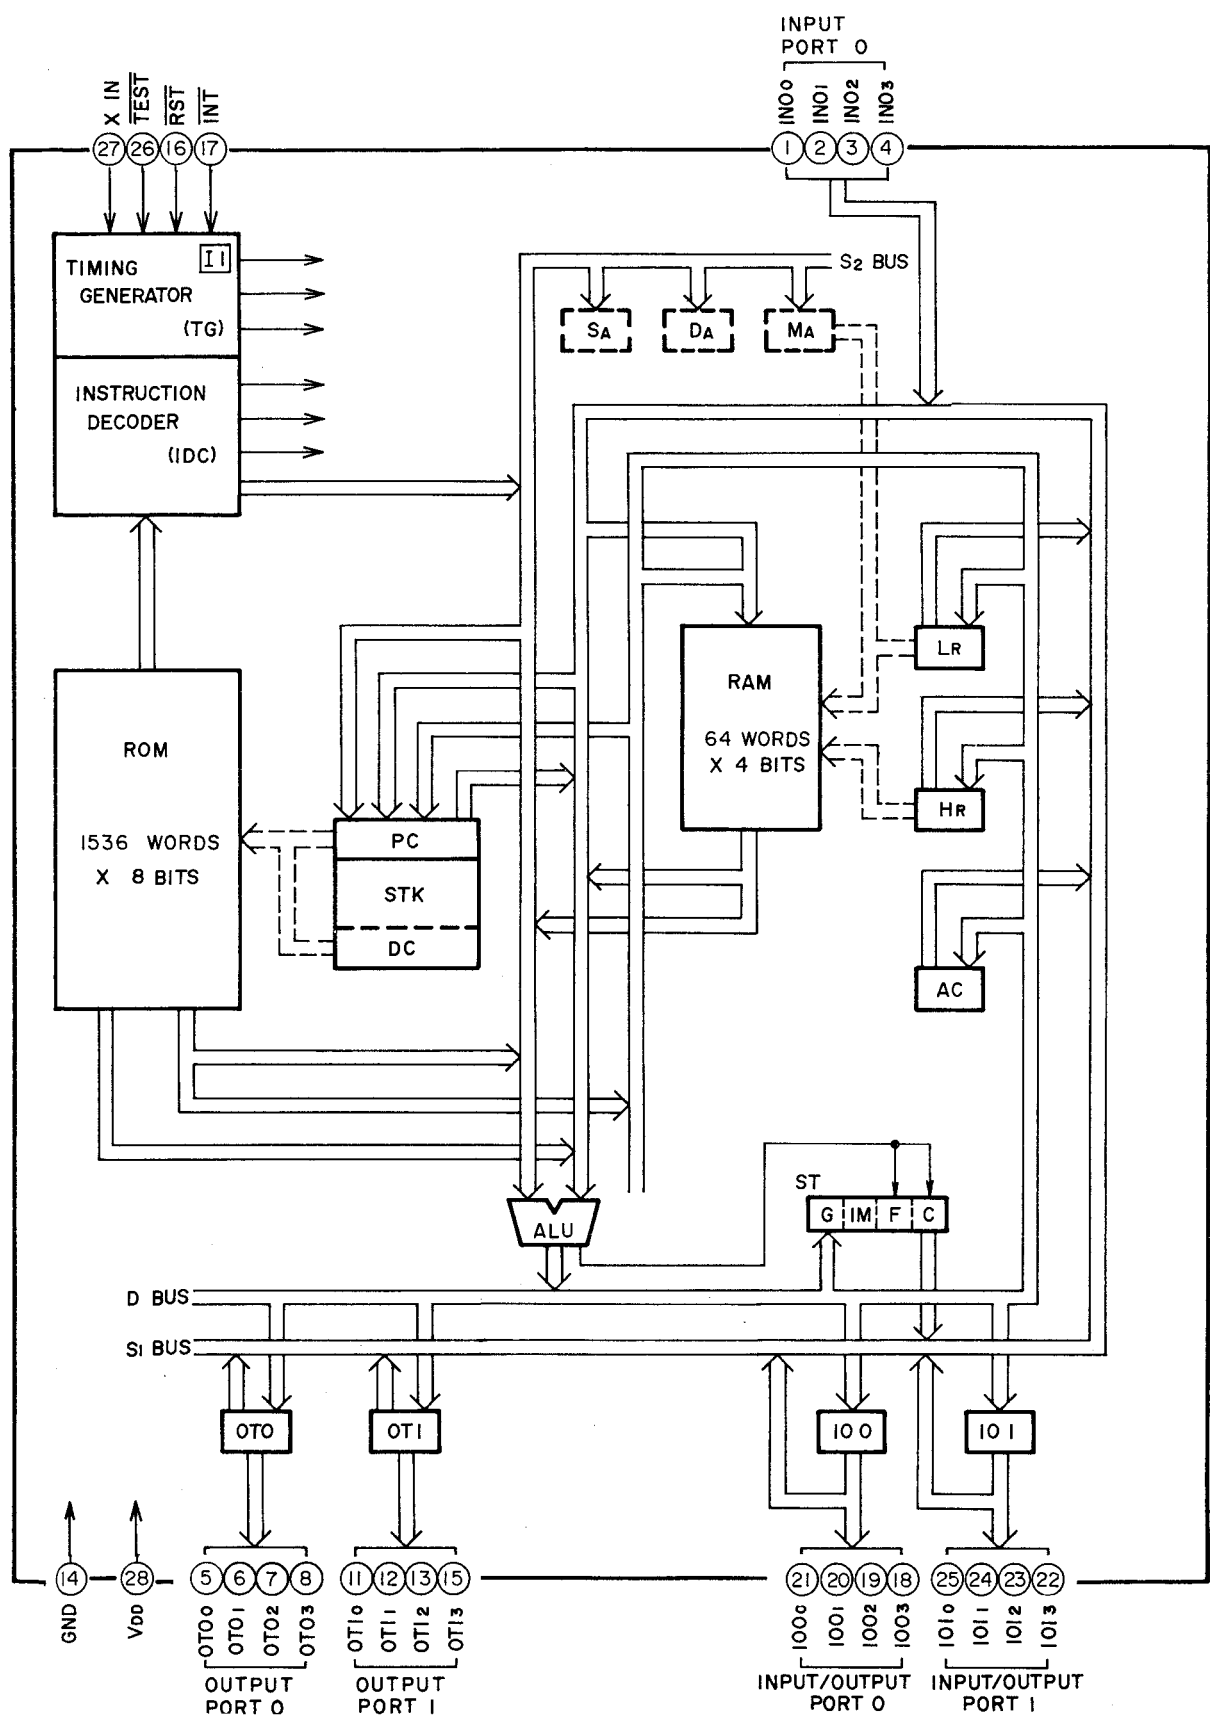

Fig. 5 Block diagram
Fig. 5 is the block diagram of AP-500-A, which has ① input terminal, ② output ports, and ③ input/output ports. AP-500-A receives and processes data coming through the input ports and delivers appropriate information to the output ports based on the programs stored in its ROM (read only memory) and assisted by the registers and the RAM (random access memory).